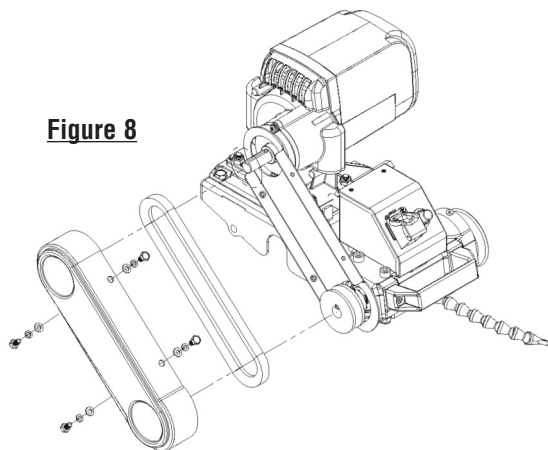

Figure 8
2. Loosen and remove the four bolts located above and below the belt guard and then remove the belt guard. *See Figure 8*